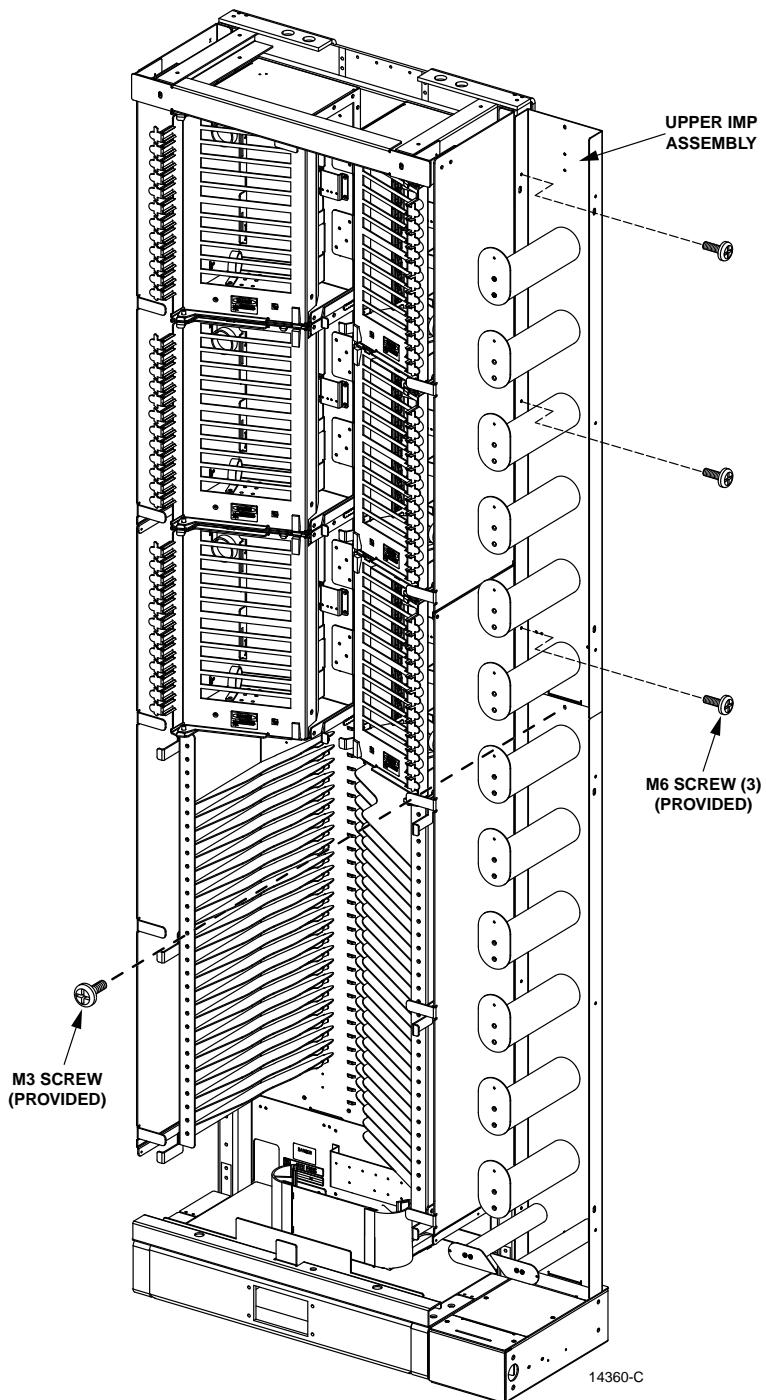

Figure 60. Attach Upper IMP Assembly
5. Place upper IMP assembly above lower IMP assembly and attach with M3 screw (provided). Attach upper IMP to frame using M6 screws (provided) as shown in Figure 60.